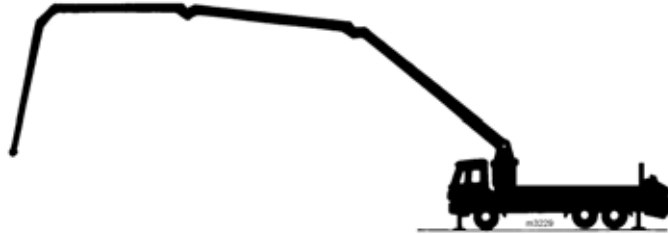

Fig. 249
- Raise boom section 1 as far as possible (**Fig. 249**).